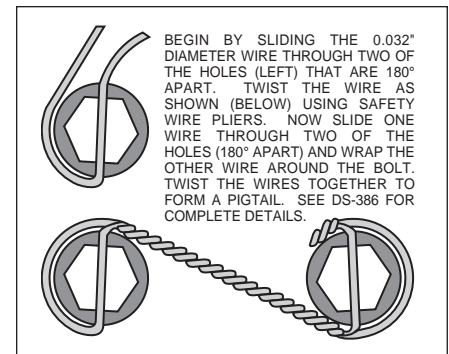

Figure 3. Safety Wire Diagram
- The spindle and caliper bracket (1) have been assembled at the factory for alignment purposes. Loosen the two bolts that secure the brackets together so that the bolts are hand tight only, this will enable the bracket assembly (1) to be adjusted to accommodate various spindle tolerances during assembly. Bolt the lower portion of the bracket assembly (1) to the backing plate face of the spindle using two bolts (2) and two lock nuts (3), hand tighten only. **NOTE:** Be sure the heads of the bracket assembly (1) insert nuts are facing outward toward the wheel. Install bolt (4) through caliper bracket (1), and into the steering arm. Torque two bolts (2) to 47 ft-lb. Apply red *Loctite*® 271 to the bolt threads (4) and torque to 140 ft-lb. Remove one of the bolts that secure the bracket assembly (1) to each other. Apply red *Loctite*® 271 to the bolt threads and reinsert into the bracket assembly. Repeat this procedure for the second bolt. Torque these two bolts to 30 ft-lb.
- Install five new wheel studs (5) into the hub (6). Torque to 77 ft-lb. **NOTE:** There are two five lug patterns in the hub (5 x 4.50 and 5 x 4.75). Make sure of the correct hole pattern for the correct wheel application before installing studs into hub.
- Pack the large inner bearing cone (7) with high temperature disc brake bearing grease (available from your local auto parts store) and install into the backside of the hub (6).
- Install the grease seal (8) by pressing into the backside of the hub (6).
- Pack the small outer bearing cone (13) with high temperature disc brake bearing grease and install into the front side of the hub (6). Lightly coat the spindle bearing surfaces with bearing grease. Slide the hub assembly (5, 6, 7, 8 and 13) onto the spindle. Secure using spindle washer (14), existing adjusting nut and nut locking device. Adjust wheel bearing pre-load per Original Equipment Manufacturer (OEM) specifications.
- Install the o-ring (15) and the dust cap (16) into the hub (6). Friction created by the o-ring (15) on the dust cap (16) keeps it from unscrewing. The O.D. of the existing spindle washer may be larger than the I.D. of the dust cap (16) which may allow the washer to contact the dust cap (16). Use the spindle washer (14) supplied with the kit instead of the stock washer.
- With the larger I.D. side of the rotor (9) facing away from the hat (11), bolt rotor (9) to hat (11) through the backside of the rotor using bolts (10). Torque bolts (10) to 180 **in-lb**. Safety wire bolts (10) using standard 0.032 inch diameter stainless steel safety wire as shown in Figure 3. Please refer to Wilwood's data sheet DS-386 (available at www.wilwood.com/pdf/ds386.pdf) for complete safety wire installation instructions.
- Slide the rotor/hat assembly (9, 10 and 11) over the wheel studs (5) in the hub (6) taking care to align the small countersunk holes in the hat (11) with the small threaded holes in the hub (6) Install three flat head socket head screws (12) through the small holes in the hat (11) and torque to 100 **in-lb**.
- NOTE:** Please reference the caution statement at the beginning of the assembly instructions. With the bleed screws pointing up, mount the caliper (17) onto the caliper bracket (1) using two bolts (20), two lock washers (19) and two shim washers (18). Finger tighten. View the rotor (9) through the top of the caliper (17). The rotor (9) should be aligned in the center of the caliper (17). If not, loosen the two bolts (20) and adjust the caliper (17) by using 0.032 inch thick shim washers (18). The shim washers (18) should be placed between the caliper (17) and the caliper bracket (1). Finger tighten and recheck alignment. Loosen the two bolts (20) and apply red *Loctite*® 271 to bolt threads (20) and torque to 30 ft-lb. Safety wire the two bolts (20).
- Install the disc brake pads (21) into the caliper (17) and secure using the pad clip retainer (24).